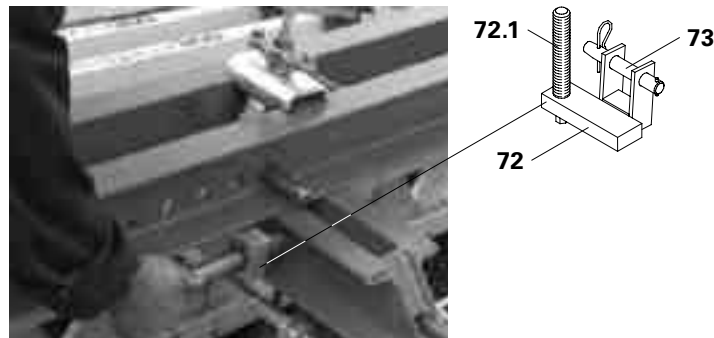

Fig. B2.03
3. Fix Height Adjusting Unit CB, SCS (72) with Bolts $\text{\O} 25 \times 180$ (73) and Cotter Pin 4/1 to the Strongback CB (70). (Fig. B2.03)